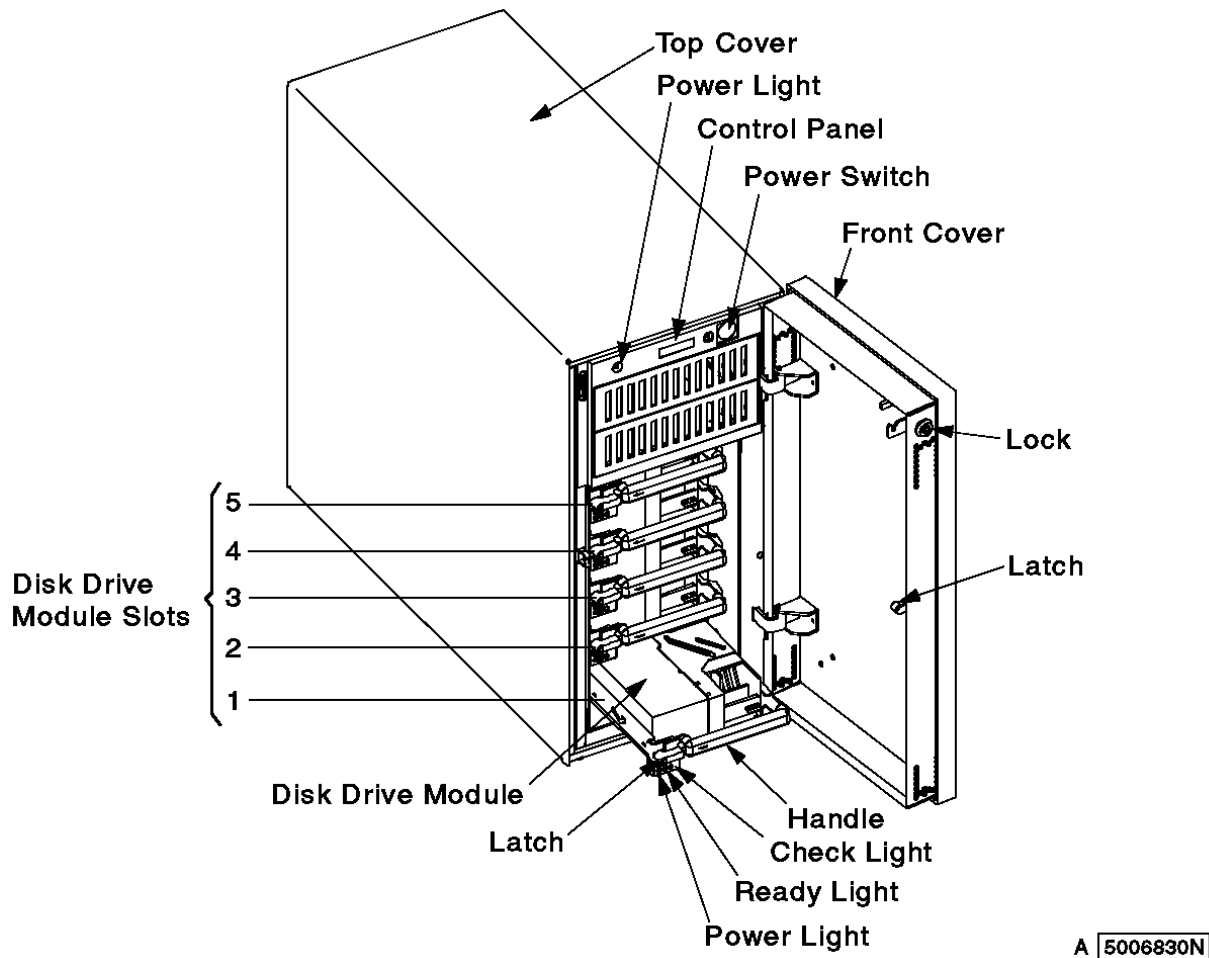

Figure 12. Power Light and Disk Drive Module Lights
6. Observe the 3527 Storage Unit; verify that all the lights (Figure 12) are as described here: